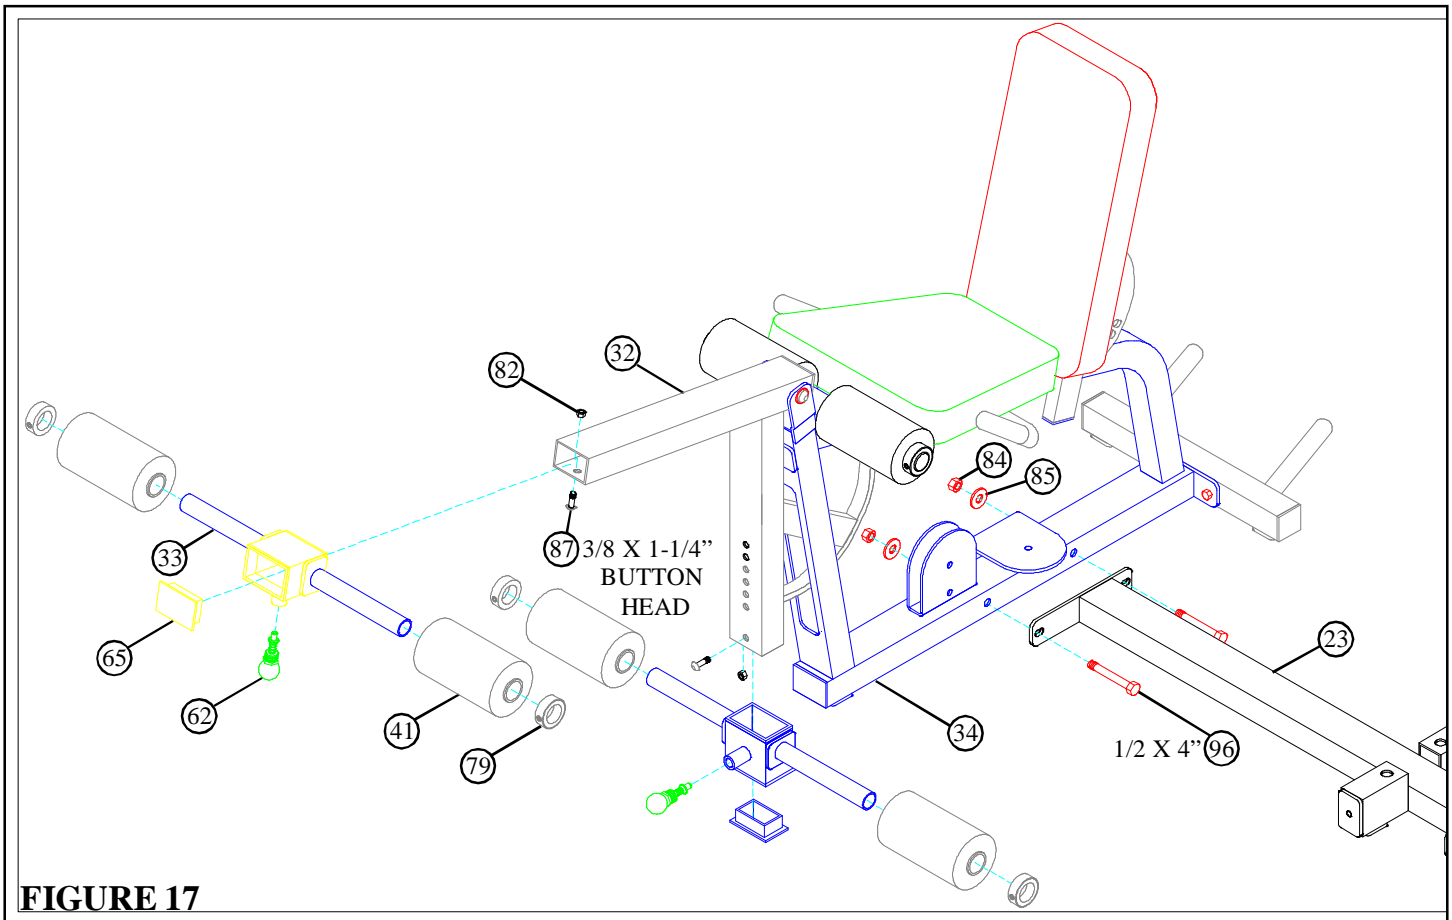

**FIGURE 16**
- **SECURELY** assemble the LEG BACK PAD (103) to the LEG BACK PAD ADJUST (2) and the LEG BACK PAD SUPPORT (3) using four 3/8 X 3-1/4" BOLTS (91) and four 3/8" WASHERS (80). See FIGURE 16.
- **SECURELY** assemble two 4 X 7" ROLLER PADS (41) to the LEG FRAME (34) using one 19-1/4" TUBE (39) and two 1-5/16" SHAFT COLLARS (79). **SECURELY** tighten set screws on SHAFT COLLARS (79). See FIGURE 16.
- Assemble four ROLLER PADS (41) to the PAD SLEEVES (33) using four 1-5/16" SHAFT COLLARS (79). **SECURELY** tighten set screws on SHAFT COLLARS (79). See FIGURE 16.